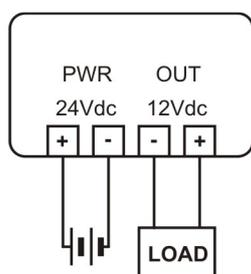
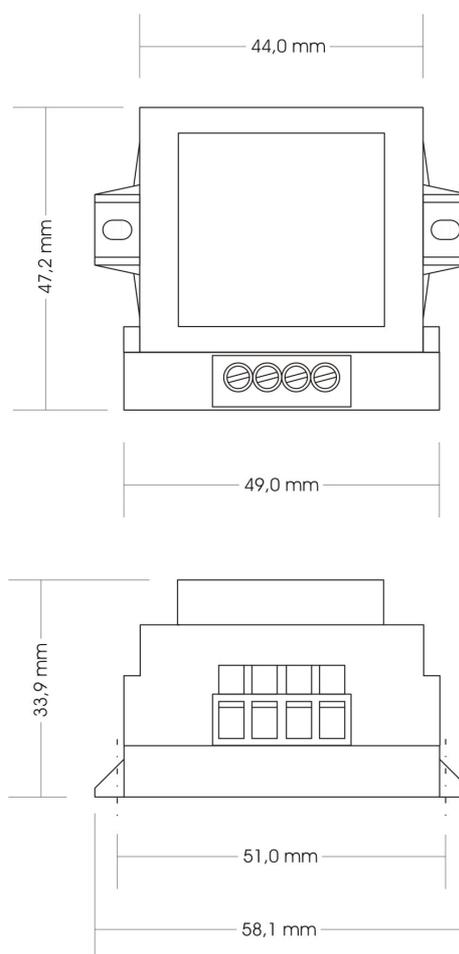

Figure 1
Figure 2
- 1.1 The TRE24 has got a size of 58x34x47 mm (WxHxD). The dimensions of all details appear in figure 2. The device must scrupulously be connected as per the diagram appearing in figure 1 and/or as per the indications on the label.